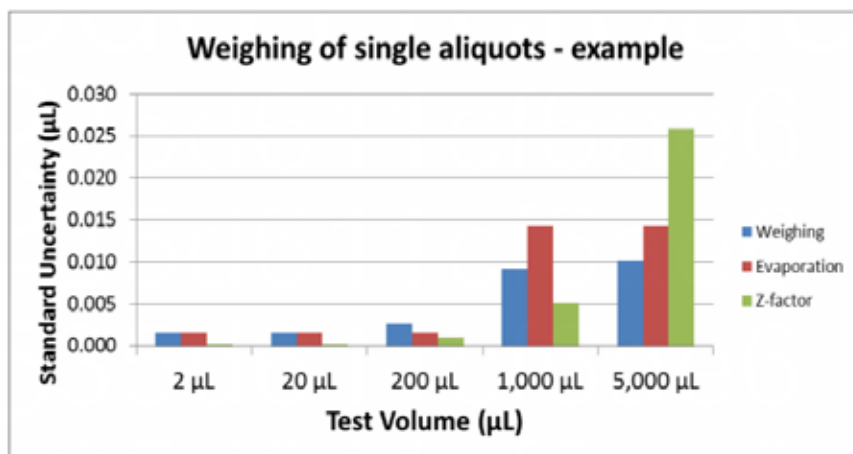

Figure 2. Example weighing uncertainty components. [Rodrigues, 2013]
The authors start by identifying the three most important measurement uncertainty sources for pipettes: (1) weighing of water, (2) operator influences, and (3) variability of the pipette under test. The weighing of water has several error contributors and can be associated into three uncertainty categories: uncertainties associated with the balance and balance calibration (*weighing*), *evaporation* of water, and conversion of indicated weight to volume by accounting for the density of water and air buoyancy forces (*Z factor*). Figure 2 shows the importance of understanding the uncertainty contributors and how they increase over the range of pipette volumes.